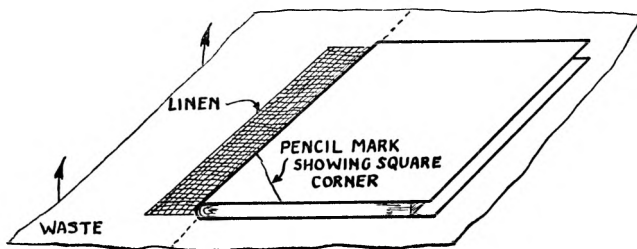
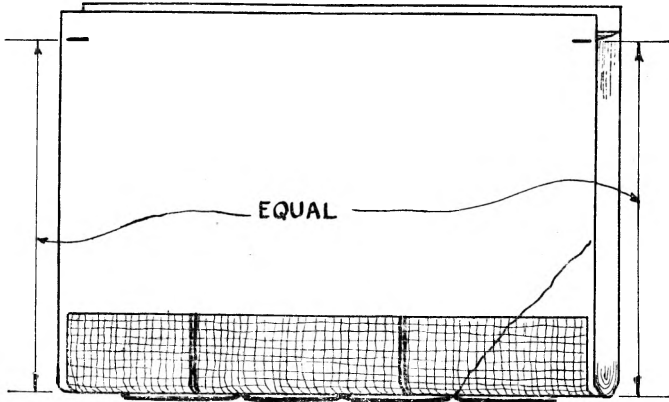

Fig. 15
Fig. 17
* 5. Insert the book into the centre of the endpapers so that the square corner of the endpapers is exactly level with the "head", i.e., the top, of the book as seen in fig. 15.
9. Place the back fold of the book on the linen so that 1" i.e., one half, of the linen is covered as in fig. 15, and press down firmly. By lifting the waste paper as shown by the arrows in fig. 15, draw the remainder of the linen over on to the book and rub down well through the paper. Remove the waste paper and place the book on one side until the paste is dry. The linen need not be all in one piece, the required length could be built up from odd scraps 2" wide butted edge to edge as suggested in fig. 17.
MARKING OUT FOR CUTTING THE FORE-EDGE. 14. Make two marks on the side of the book at the head and tail at equal distances from the back fold, fig. 17. This distance